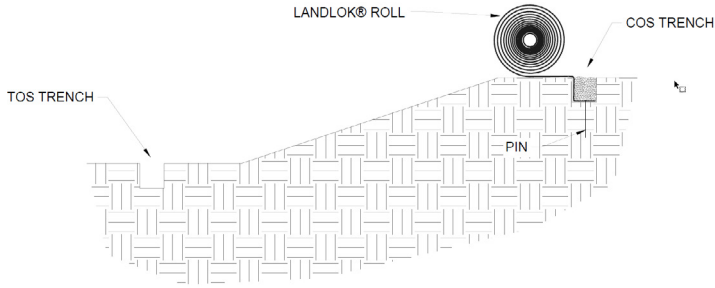

Figure 5: Crest of Slope (COS) Trench Placement
- Wire Staples should be made of steel with a 6 in x 1 in x 6in (152 mm x 25 mm x 152 mm) 11 gauge wire or 8 in x 1 in x 8 in (204 mm x 25 mm x 204 mm) 8 gauge wire with sufficient ground penetration to resist pullout. (Figure 5).
4. Backfill and compact the COS trench in the location of the first TRM panel only (Figure 5).